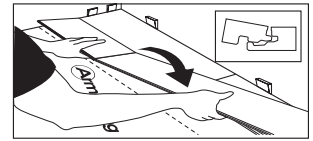

Figure 14
- Continue installing full boards in the second row by angling the short end of the next board in the row to lock into the previous board (Fig. 14). Position the board so that the long side of the board is close to boards in the previous row and overlapping the groove of the boards in the previous row.